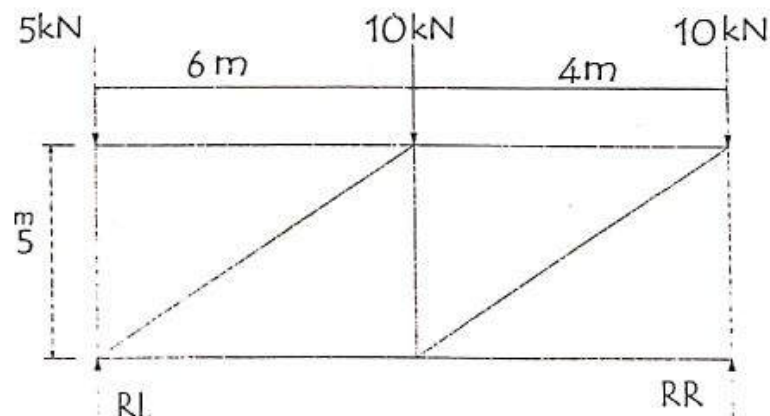

FIG. 2
2. Figure 2 below is of a roof truss designed for a hospital path way that is proposed to be built at Nsambya Hospital. Using suitable scales.